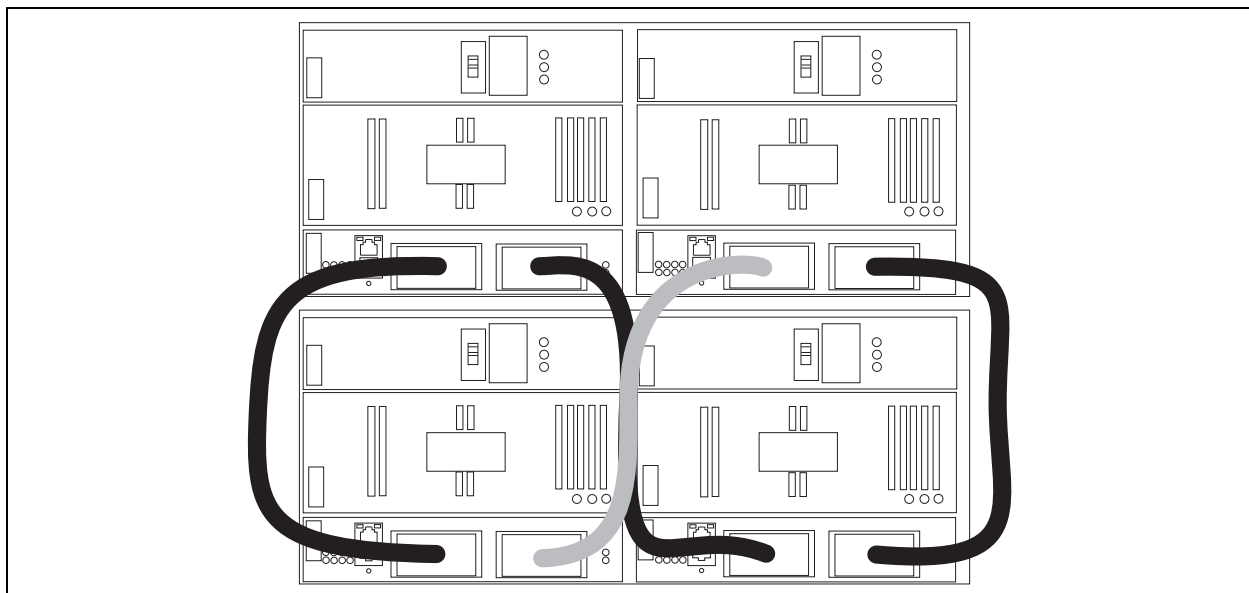

Figure 3-7 Connecting the HyperStack Cables
6. Connect HyperStack cable connectors as shown in Figure 3-7. These copper cables are very flexible and can be bent as needed without damage. This is the only cabling configuration that is supported. Any other configuration will result in an error.